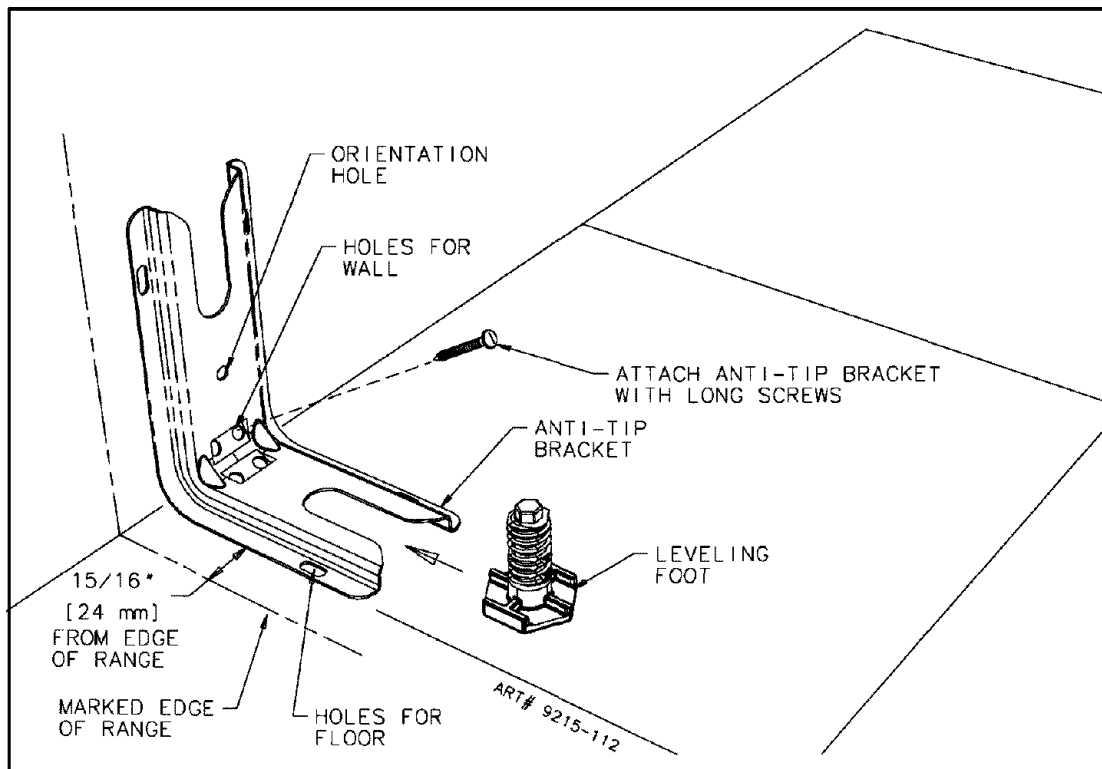
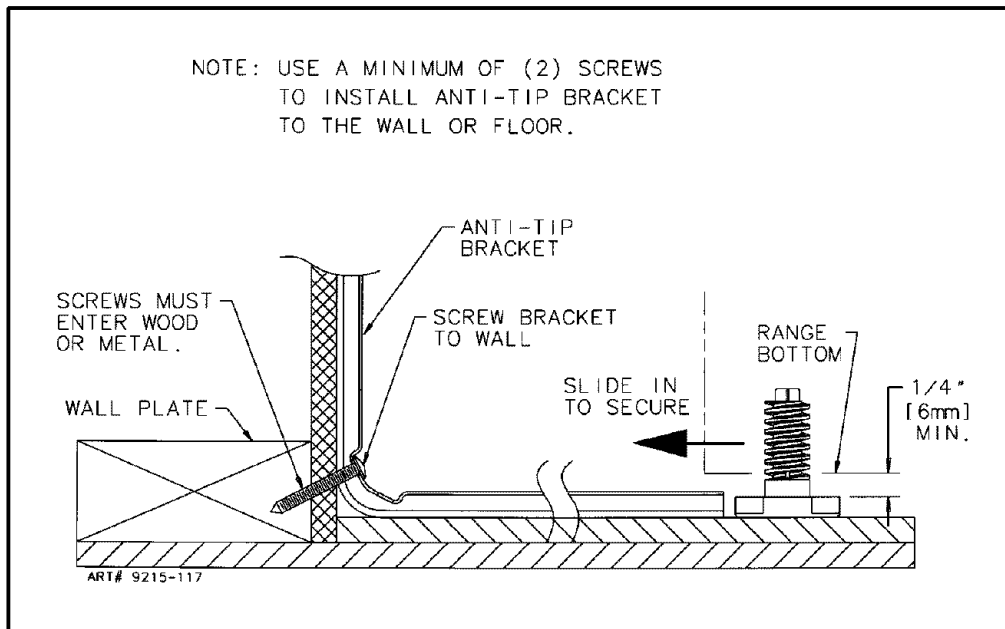

FIGURE 5
FIGURE 6
Install the bracket with the orientation hole in the longer leg against the wall as shown in figure 5.
### STEP 1 - Locating The Anti-tip Bracket (See Figure 5)
- Place the BRACKET 15/16" (24mm) from the marked "EDGE" toward center of opening and against the back wall as shown in figure 5, with orientation hole against wall.
- Use the bracket as a template and mark the required holes, as shown in figure 5, for the type of construction you will be using.
1. Floor: Locate the center of the two holes identified in figure 5 as "HOLES FOR FLOOR." Drill a 1/8" (3 mm) pilot hole in the center of each hole (a nail or awl may be used if a drill is not available). Secure the ANTI-TIP bracket to the floor with the two screws provided. Proceed to STEP 3.
2. Wall: Locate the center of the two holes identified in figure 5 as "HOLES FOR WALL." Drill an angled 1/8" (3 mm) pilot hole in the center of each hole as shown in figure 6. (A nail or awl may be used if a drill is not available). Secure the ANTI-TIP bracket to the wall with the two screws provided as shown in figure 6. Proceed to STEP 3.
1. Suitable screws for concrete construction can be obtained at the hardware store. Drill the required size hole for the hardware obtained into the concrete at the center of the holes identified in figure 5 as "HOLES FOR FLOOR". Secure the ANTI-TIP bracket to the floor. Proceed to STEP 3.
- B. Align the range to its designated location and slide it back into position. Note: A minimum clearance of 1/4" (6 mm) is required between the range and the leveling foot that will engage the ANTI-TIP bracket, see figure 6.